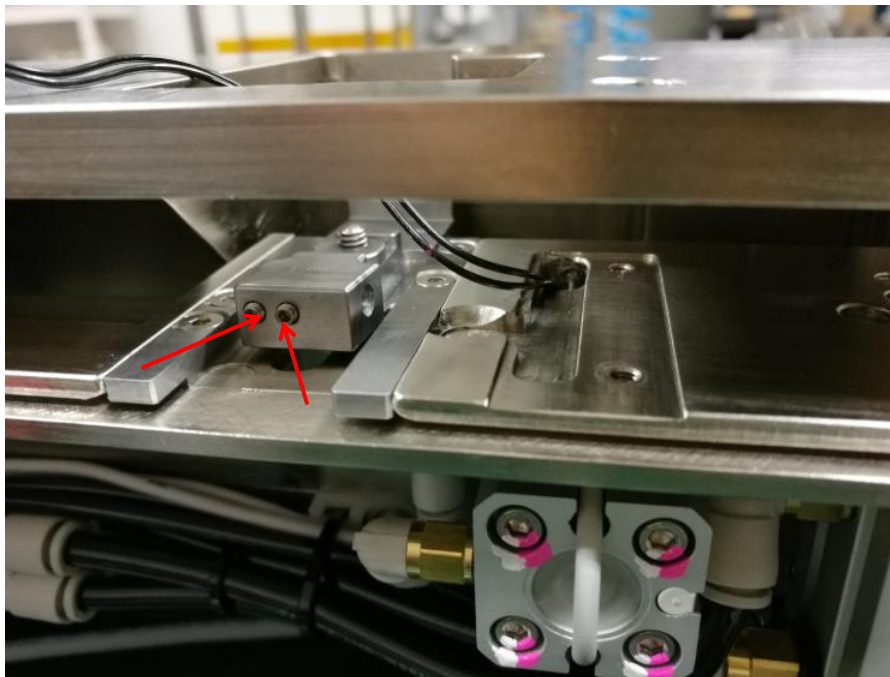

Figure 7 PIP Sensor Cable Removal
8. Loosen 2 x Set screws & remove PIP Sensor Cable as shown in Figure 7.